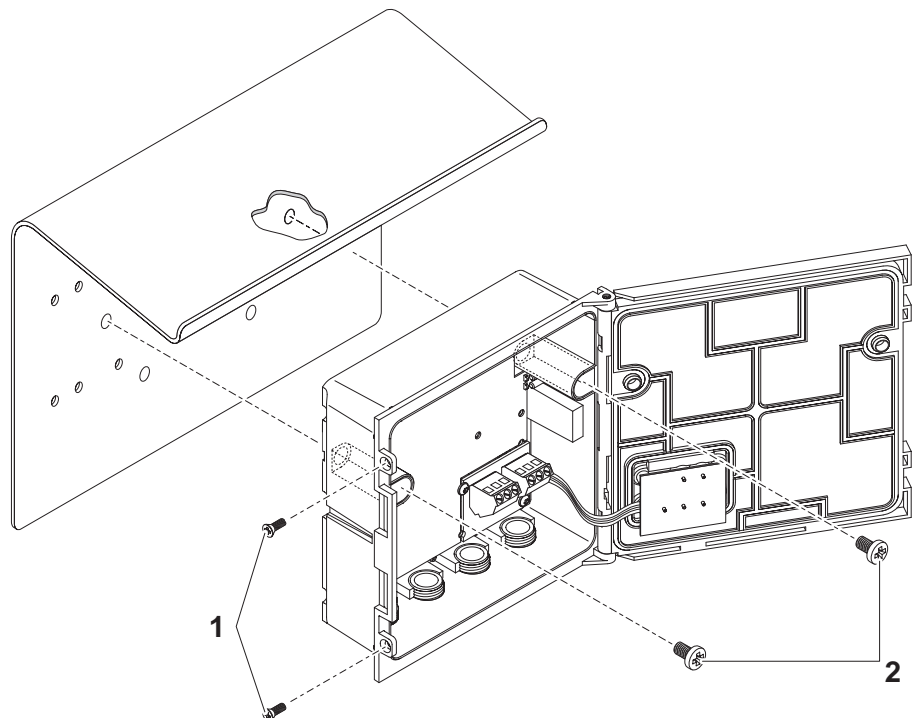

Fig. 3-11 Mounting the module on the SD/K 170 sun shield
| 6 | Remove the two screws (pos. 1 in Fig. 3-11) and swing open the module lid. |
7	Position the module on the sun shield and fix it into place with the two screws (pos. 2 in Fig. 3-11).
8	Close the module lid and fix it in place with the two countersunk screws (pos. 1 in Fig. 3-11).